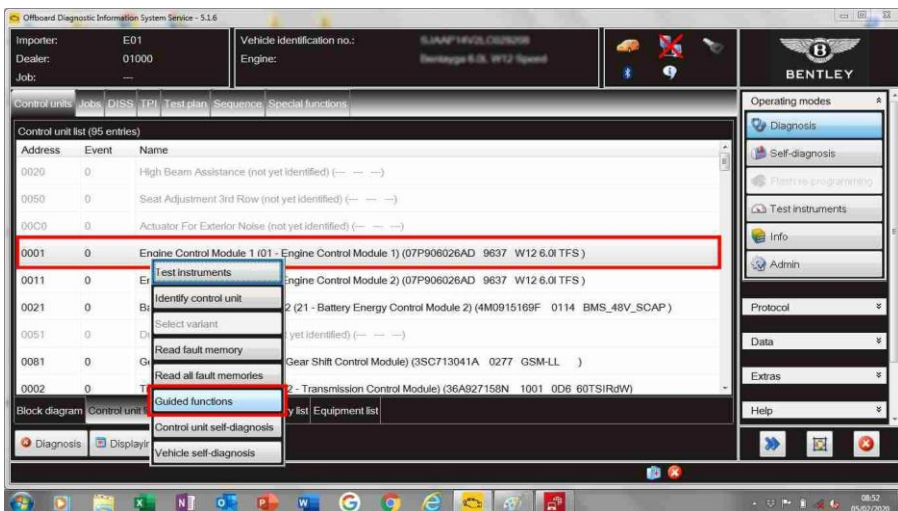

Figure 2.
- “Right click” on “Engine Control Module 1 (01 – Engine Control Module 1)” and select “Guided functions” – Figure 2.